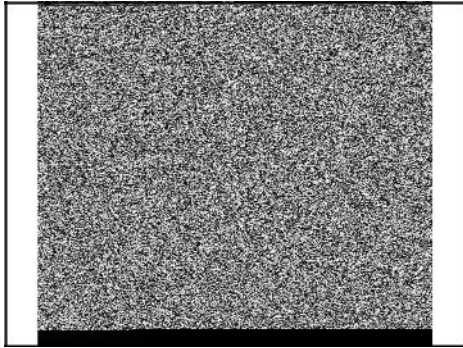

Figure 11
4. Remove the exhaust pipe screws, muffler assembly, and gaskets. Discard gaskets (Figure 11).